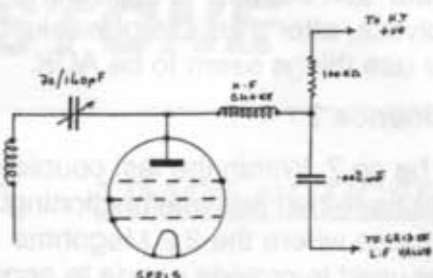

fig: 1 ADAPTING THE A.W.2 FOR 28 MC/S
2. An HF choke (Eddystone 1010) was inserted in the anode lead of the detector valve as shown in figure 1.